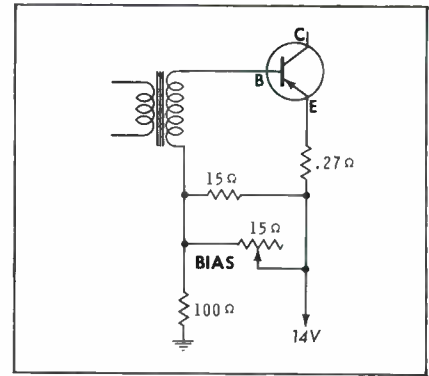

Fig. 6. Bias control is sometimes in base-emitter leg of the voltage divider.
The precaution of setting up minimum base-emitter bias before installing a new transistor is an extremely important step in servicing any circuit containing a variable bias control. It matters not whether the circuit conforms to the commonly-used arrangement shown in Fig. 2, or to the alternate hook-up of Fig. 6, nor will it matter if the manufacturers eventually use NPN transistors instead of the PNP types now universally used.
maximum-resistance setting of the control does not establish minimum bias in all circuits! In Fig. 6, where the control is in the emitter-to-base leg of the voltage divider, a minimum-resistance setting is required. This can again be proved by Ohm's law. At minimum resistance, the base is shorted to the emitter, and there is no bias. However, at maximum resistance, a 7.5-ohm resistance between base and emitter is in series with a 100-ohm resistance, for a total of 107.5 ohms. The current (E/R) is  $14/107.5$ , or .13 amps, and the base-emitter voltage (IR) is